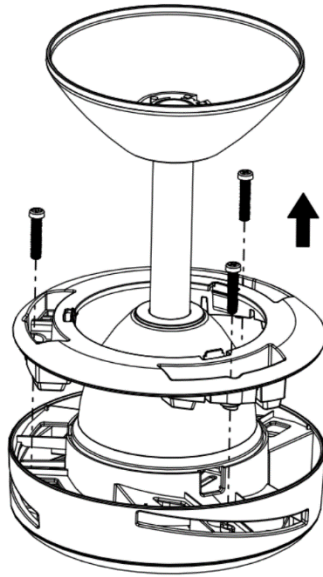

Fig. 4.1
1. Unscrew the three screws from the cover of the fan blade and lift up blade cover; (Fig.4.1)